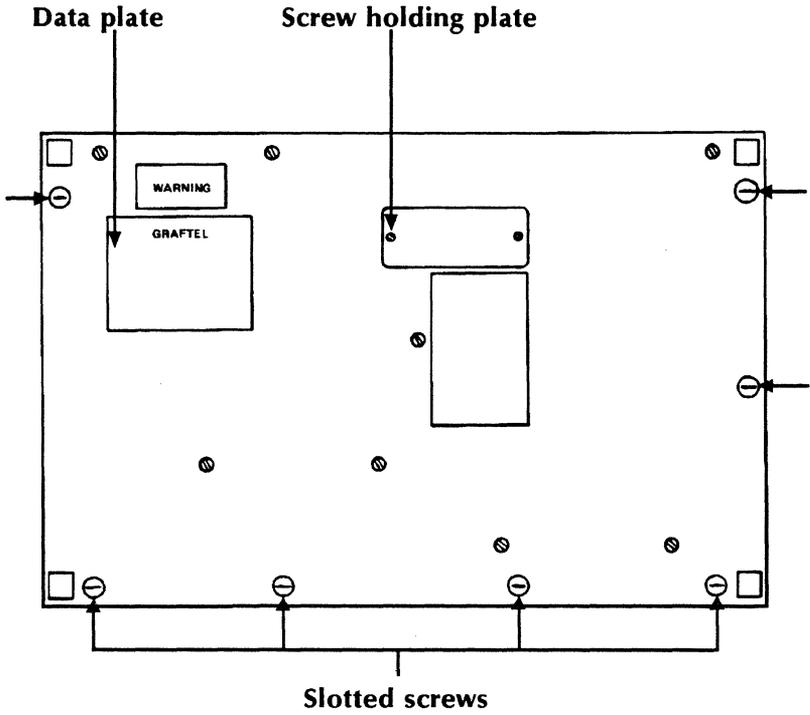
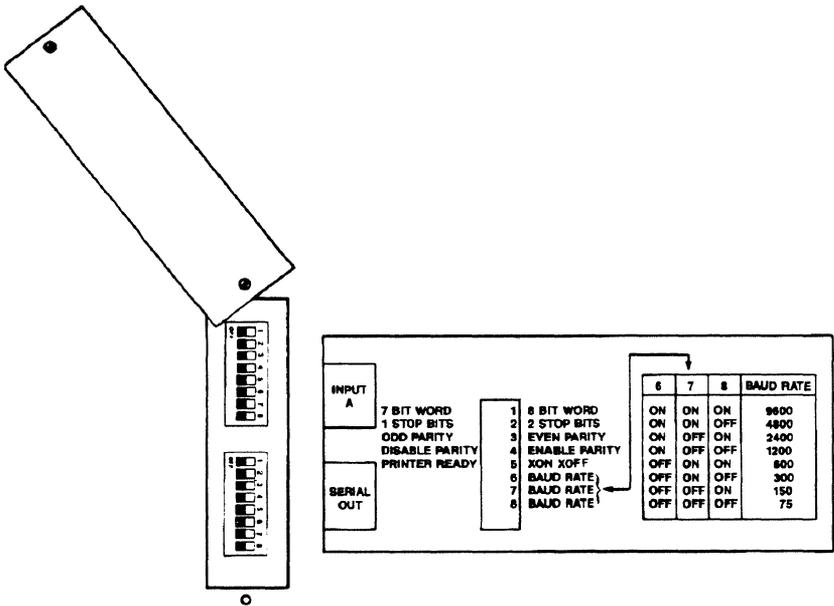

Figure 6-11 Bottom of ISD unit
Figure 6-12 Switchbank plate on the bottom of ISD
3. Using the slotted 1/4" screwdriver, remove one of the screws from the plate located in the center and towards the back of the unit. Then, slide the plate so the two switchbanks are accessible. See Fig. 6-11 and Fig. 6-12.